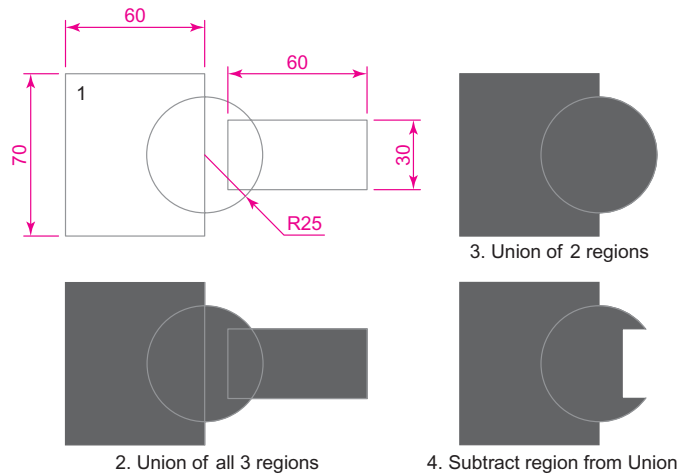

Fig. 12.11 Second example – **Union** and **Subtract** of regions
Second example – Union & Subtract regions (Fig. 12.11)
1. In the **ViewCube/Top** view, construct drawing 1 of Fig. 12.11 and with the **Copy** tool (**Home/Modify** panel), copy the drawing three times to produce drawings 2, 3 and 4.